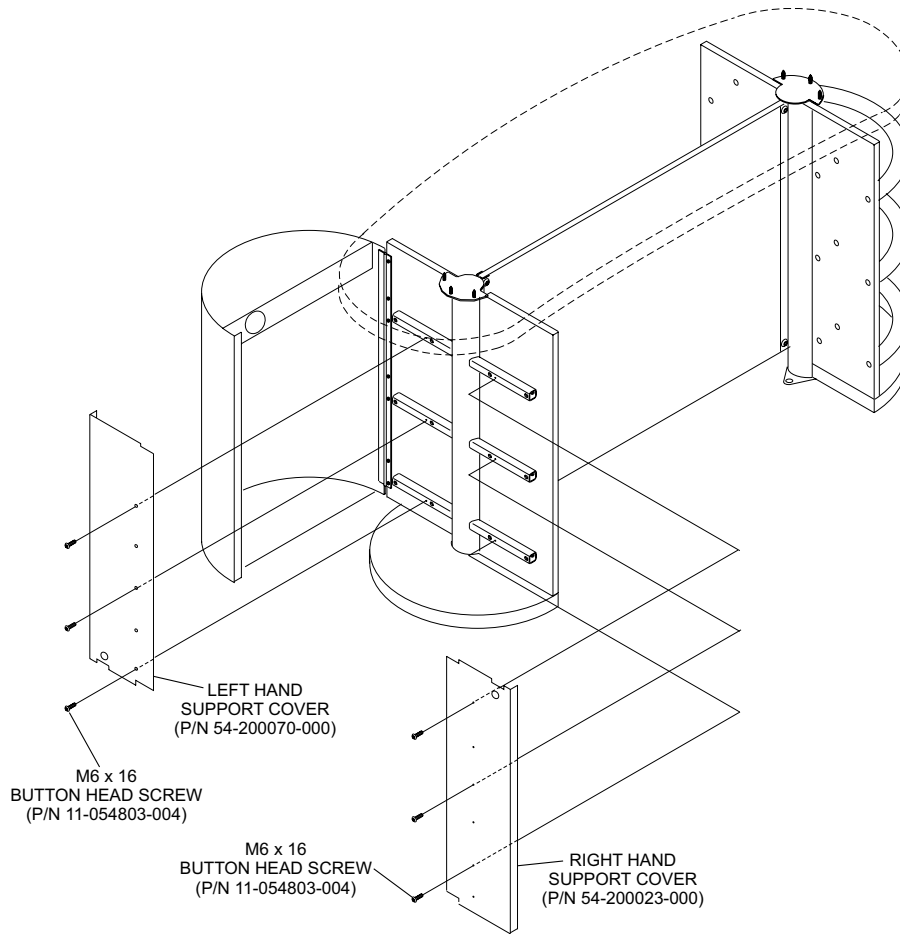

Figure 14
1. Secure the left hand support cover (P/N 54-200070-000) and the right hand support cover (P/N 54-200023-000) with 3 each M6 x 16 button head screws (P/N 11-054803-004). Refer to *Figure 14*.